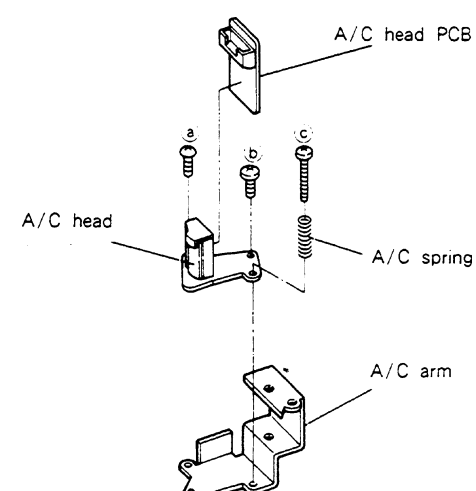

Fig. 2-12-2
- Remove three A/C head fastening screws (a), (b) and (c) and the A/C spring shown in Fig. 2-12-2, and remove the A/C head from the A/C arm.
- Unsolder the A/C head PCB from the A/C head. (Refer to Fig. 2-12-2.)
- Solder the A/C head PCB to the A/C head. (Refer to Fig. 2-12-2.)